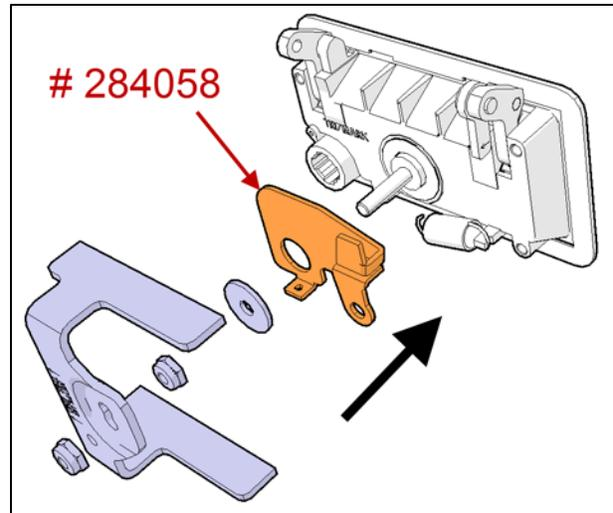

FIGURE 3
6. Install remaining parts with the new lever (part #284058, Figure 3).